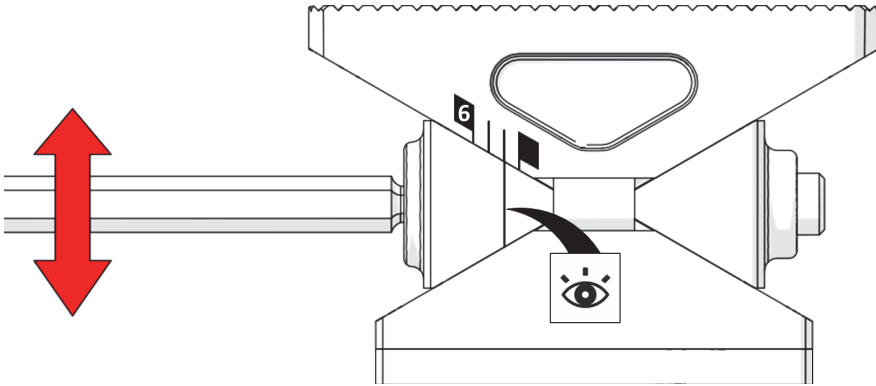

Figure 1-19 Align the index marking
2. Adjust all four feet to the index marking that provides a firm mounting of the circumferential band to the pipe (see Figure 1-19 on page 39). Ensure that all four feet are keyed to the same index marking.